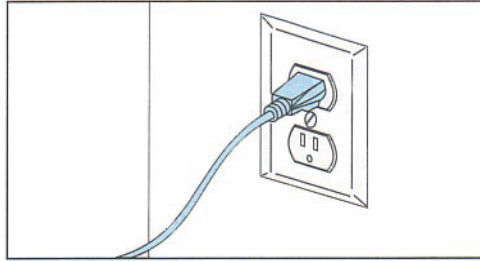

Figure 5: Connecting to a grounded electrical outlet
1. Connect the male end of the supplied power cord directly into a grounded electrical outlet, as shown in Figure 5 on page 19. (If using a Uninterrupted Power Supply (UPS), connect the cord directly into the UPS).